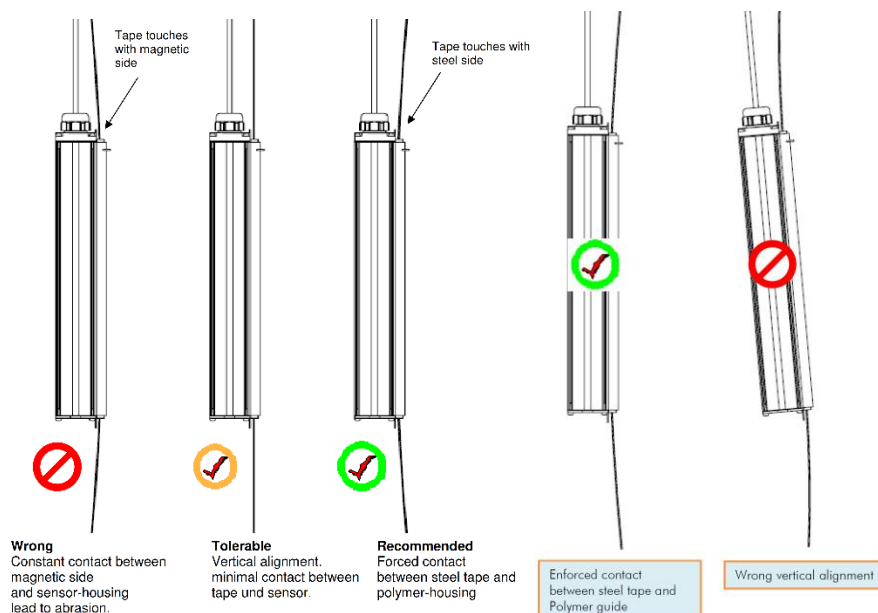

Figure 15: Horizontal Offset Alignment Guideline.
8. Adjust now the distance between sensor and band. Up to a travel height of 50 m we recommend an offset of at least 15 mm. This will ensure steady contact between steel side of the band and the polymer guide of the sensor. In higher installations this distance may be increased. (see Figure 15)
Run an inspection trip along the complete hoistway. Observe the system and pay attention to the respective positions of band and sensor. You have achieved an optimal installation if the steel side of the band is constantly pressed slightly against the polymer guide of the sensor. At some points in the hoistway also double-check the bottom side of the sensor. If the sensor is tilted it may look good on top but the band can still grind along the bottom edge of the sensor. (see Figure 15)